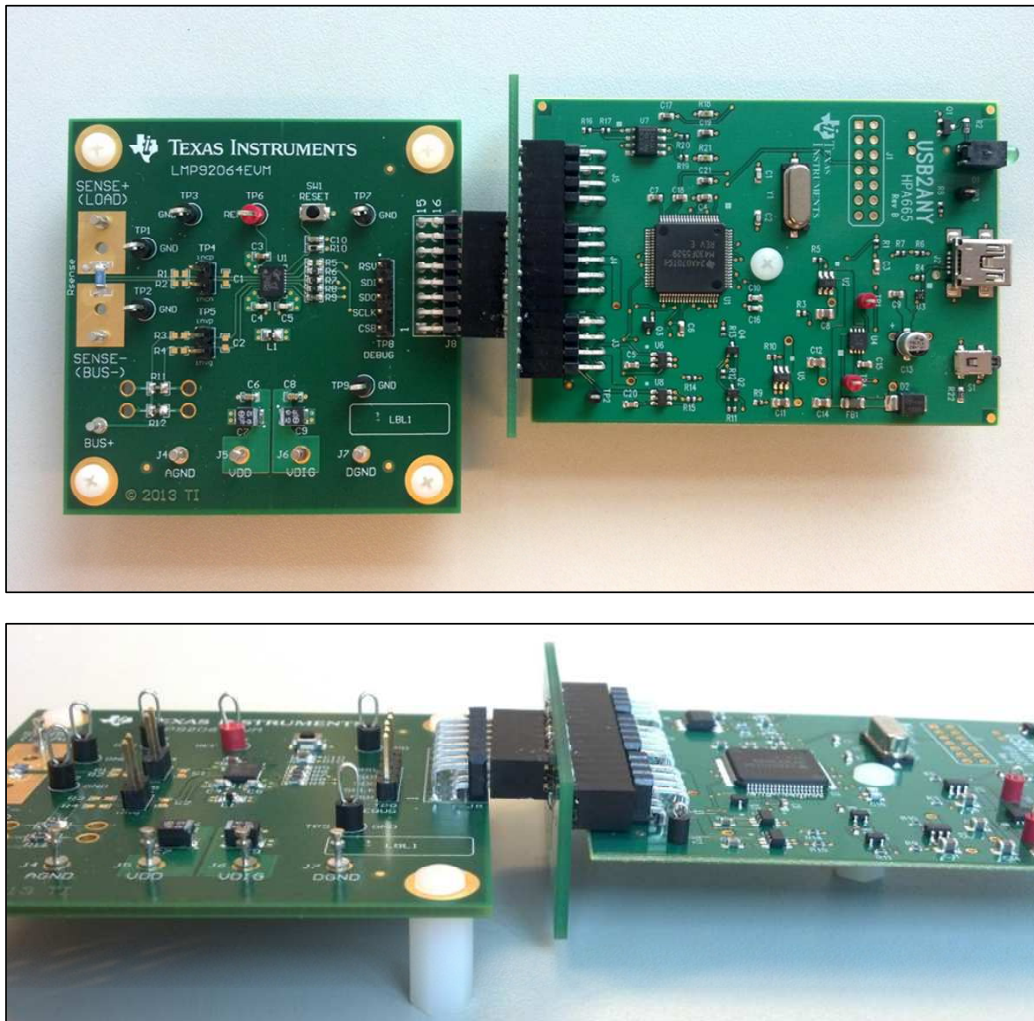

Figure 16. Hardware Connection
7. Insert J8 into the adaptor and into the USB2ANY board's connector (do not plug the USB cable to the PC yet). See Figure 16 for reference.